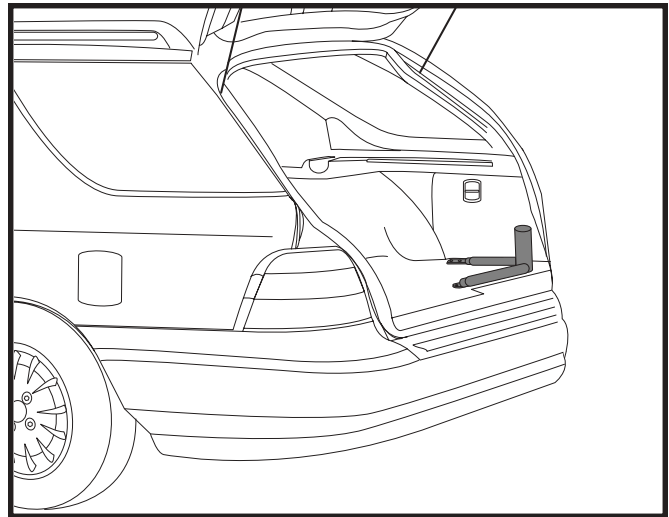
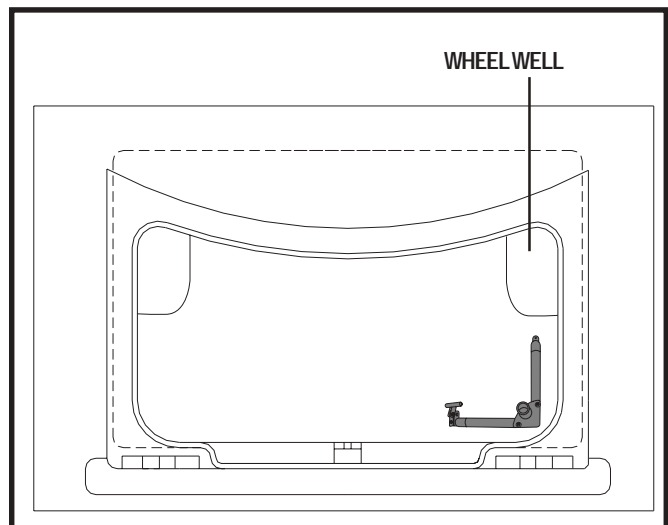

Figure 2. L-Base (Hatchback Installation)
Figure 3. L-Base (Trunk Installation)
2. Before permanently installing the lift, place the L-base inside your vehicle in the area in which you intend to install it. See **figure 2** for L-base positioning in vehicles with hatchbacks, or **figure 3** for trunk installation.
Position the L-base as shown in **figure 3**. You may need to situate the L-base so the wheel well does not interfere with the L-base extensions. Ensure there is adequate room for a mobility device to comfortably fit into the trunk.